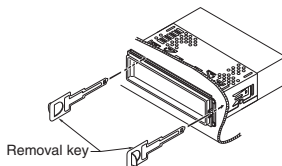

Figure 8
3. Insert and lock the hook plates. (Figure 8)